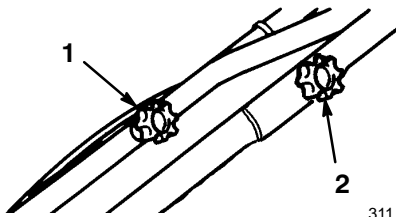

Figure 1
2. Remove the left knob and bolt then install the knob and bolt on inside of the handle (Fig. 1).